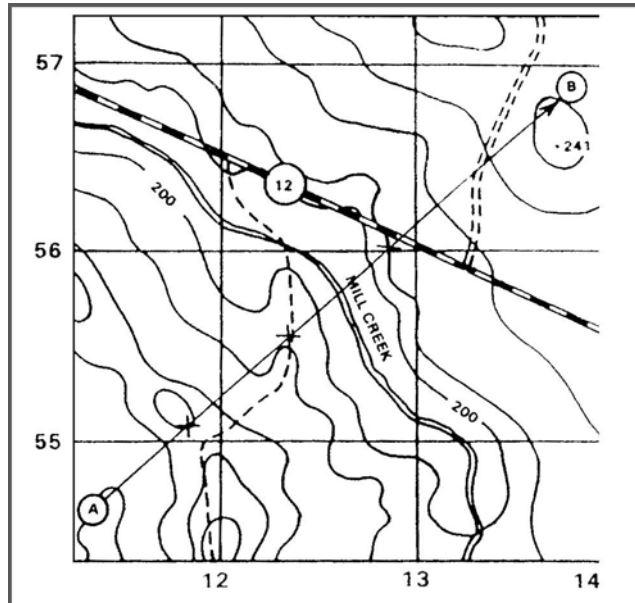

Figure 1. Straight-line route.
- b. In using association, you first locate your position on the map, then locate your destination or objective. It will seldom be the best way to travel. For example, look at Figure 1. Assume that you are to move from point A to point B. You see that a straight line could cause you to climb several small ridges and valleys (the "X's" on Figure 1).